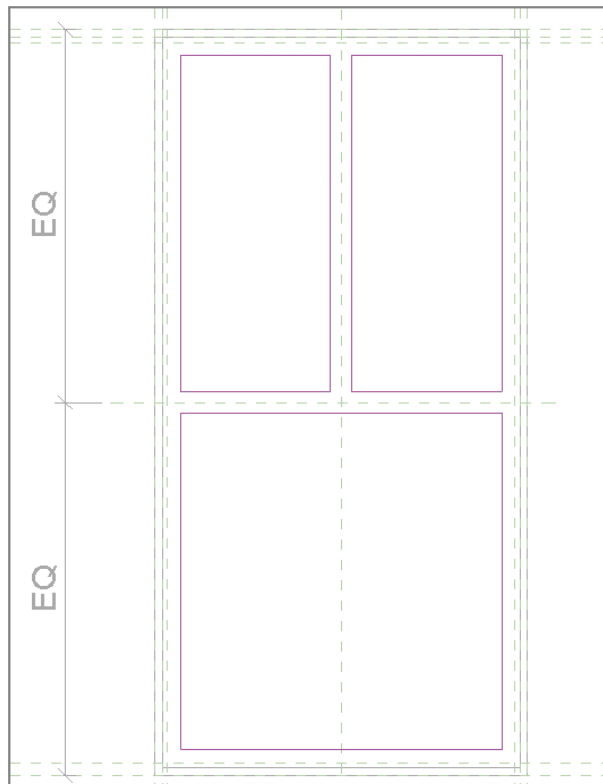

FIGURE 6.25 Modifying the window glazing
12. Select the glazing, and then click the Edit Extrusion button from the Mode panel on the contextual Modify | Frame Mullion tab. Return to the Exterior elevation, and add sketch lines aligned with your previously modified window trim, as shown in Figure 6.25. You can use the Pick Lines option in the Draw panel to make this process even easier. Remember to remove the segments of outer line using the Split tool, as you did in step 7.